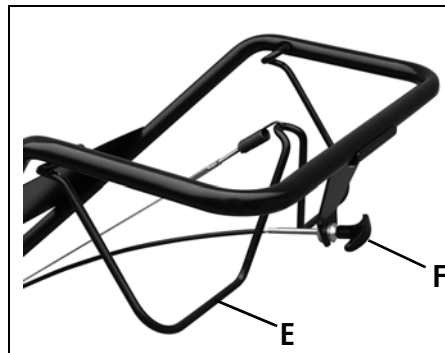

Figure 3-4: All models have a Forward Clutch Bail (E). Only Models 634F/634A have a Reverse Clutch Control (F).
The Forward Clutch Bail (E, Figure 3-4) controls the engagement of forward drive to the wheels and tines.
2. Lift and hold the clutch bail (E, Figure 3-4) against the handlebar to start the wheels and tines rotating in a forward direction.
The Reverse Clutch Control (F, Figure 3-4) controls the engagement of reverse drive to the wheels and tines. **The reversing feature is used for maneuvering the tiller only — never engage the tines in the ground while operating in reverse.**
3. Lift the handlebar until the tines clear the ground, look behind you to avoid any obstacles, and then pull the control knob (F, Figure 3-4) out. The wheels and tines will rotate in a reverse direction.